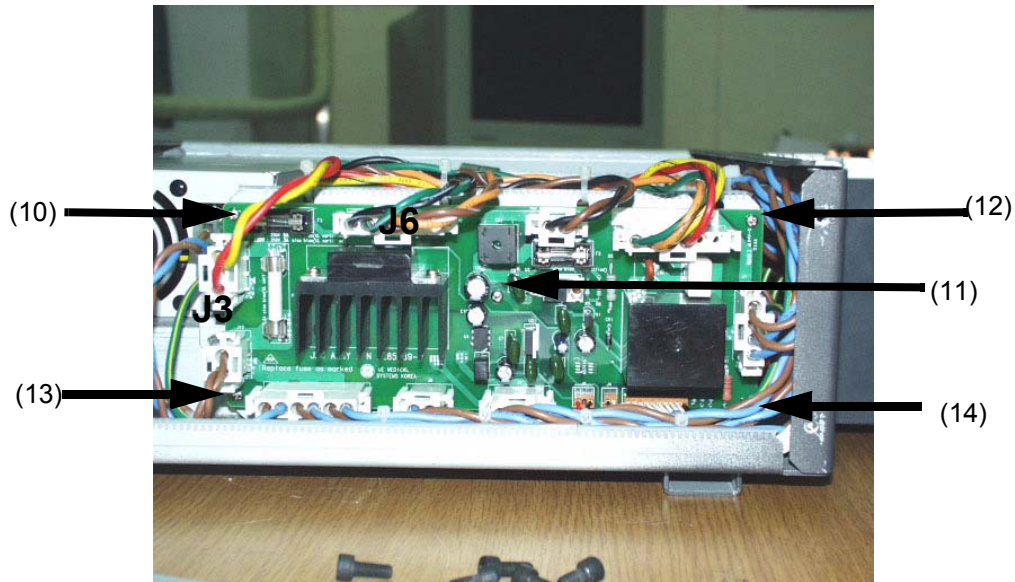

Figure 8-49 Disconnecting all connectors
3.) Disconnect all the connectors connected in the JPC Assy. Refer to Figure 8-49 on page 8-104 ..